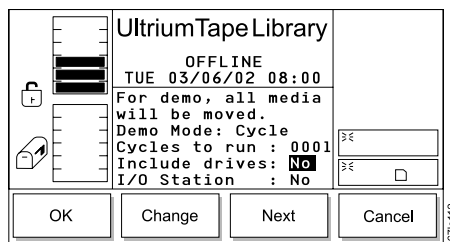

Figure 325. Include Drives Dialog
- To include drives or the I/O station in the demo, press the button below the **Next** softkey until the selection cursor highlights the value in the Include drives or I/O Station field. The screen automatically refreshes and displays a **Yes/No** softkey (see Figure 325). Press the button below the **Yes/No** softkey until the value that you want displays.